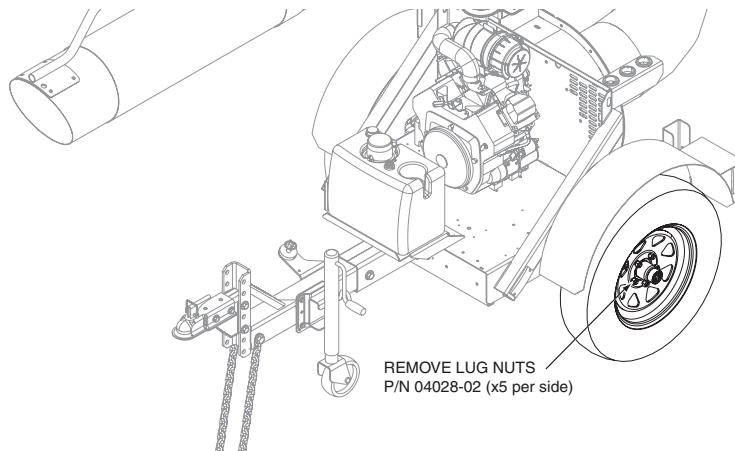

Figure 1. Wheel Removal
3. Remove the wheels from the truck loader. See Figure 1. Set the wheels aside and retain the mounting hardware as it will be used to reinstall the wheels.